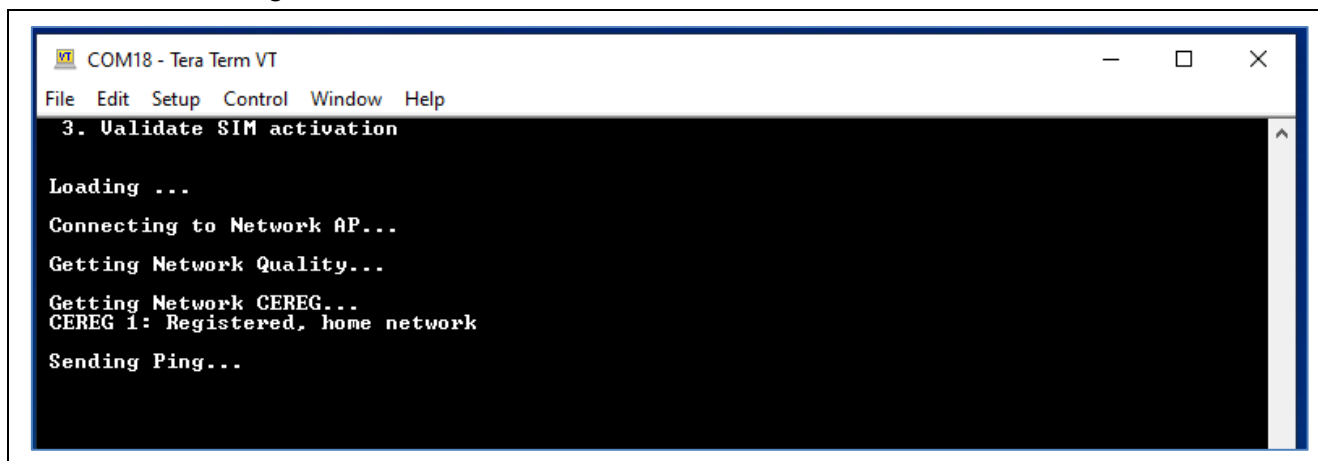
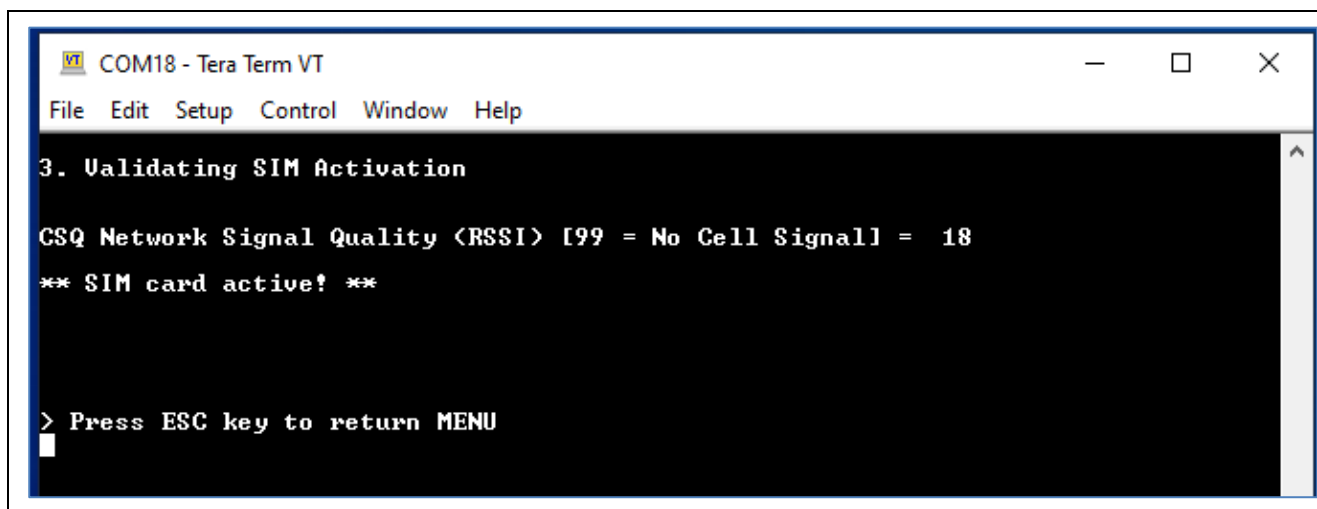

Figure 12. Validation Steps of SIM Activation
Figure 13. Validating SIM Activation – SIM Card Active
Press **3** to enter the **Validate SIM activation** screen. The program will attempt to ping the Quad9 server (IP address 9.9.9.9) for a response to determine whether the SIM card has been activated. The steps of a successful SIM validation are shown in Figure 12. Upon success, the text **"** SIM card active! **"** will be displayed on the terminal screen (see Figure 13). If SIM card validation fails, follow the **Troubleshooting** section.
10. Insert the SIM card in the RYZ024A PMOD. Follow **Running the RYZ024A PMOD example project** section step 8 by using **Menu 3 Validate SIM activation** to verify that the SIM card is activated. The SIM card should be activated on the Truphone SIM Activation platform after 15 minutes and can be validated on the Tera Term terminal as shown in Figure 12. The time for the SIM Card to be activated by Truphone can vary depending on their system demand. In most cases, if PING Response fails, wait a few more minutes and repeat **Menu 3 Validate SIM activation**.